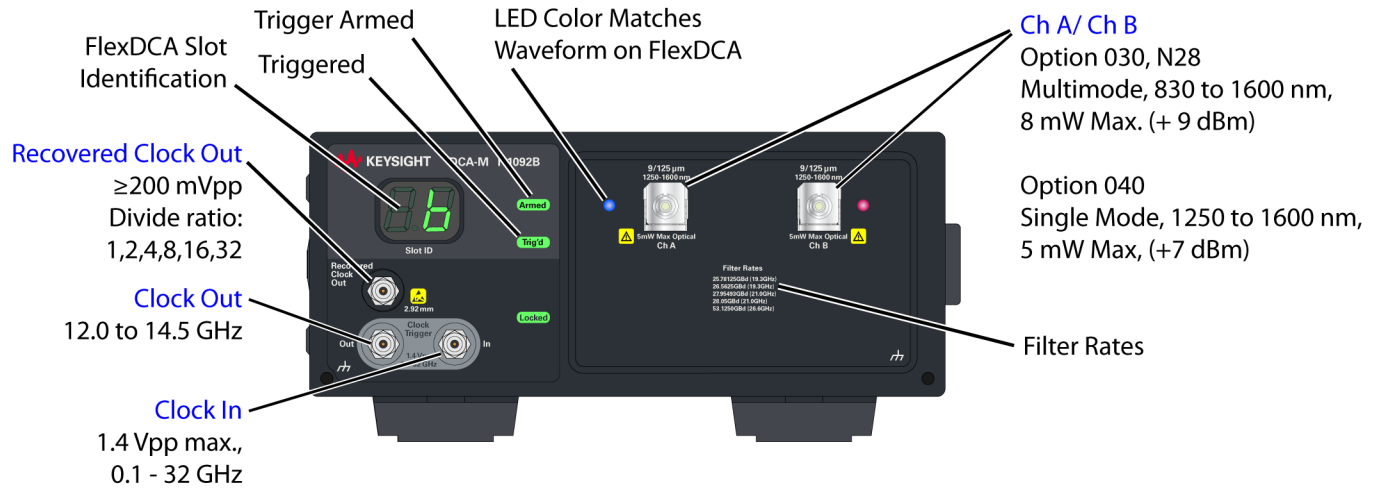

Figure 10. N1092B Option CDR Front Panel
- *Figure 10, N1092B Option CDR Front Panel*, on page 33